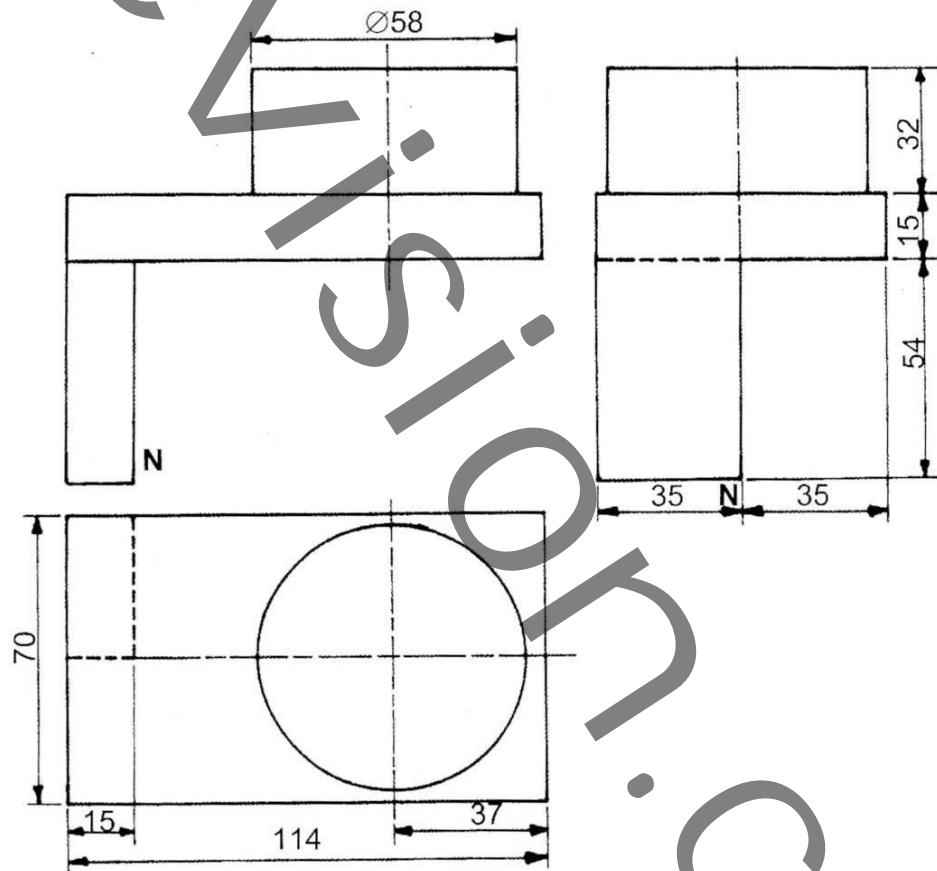

Figure 1
- 1** Three orthographic views of a bracket are shown in Figure 1.